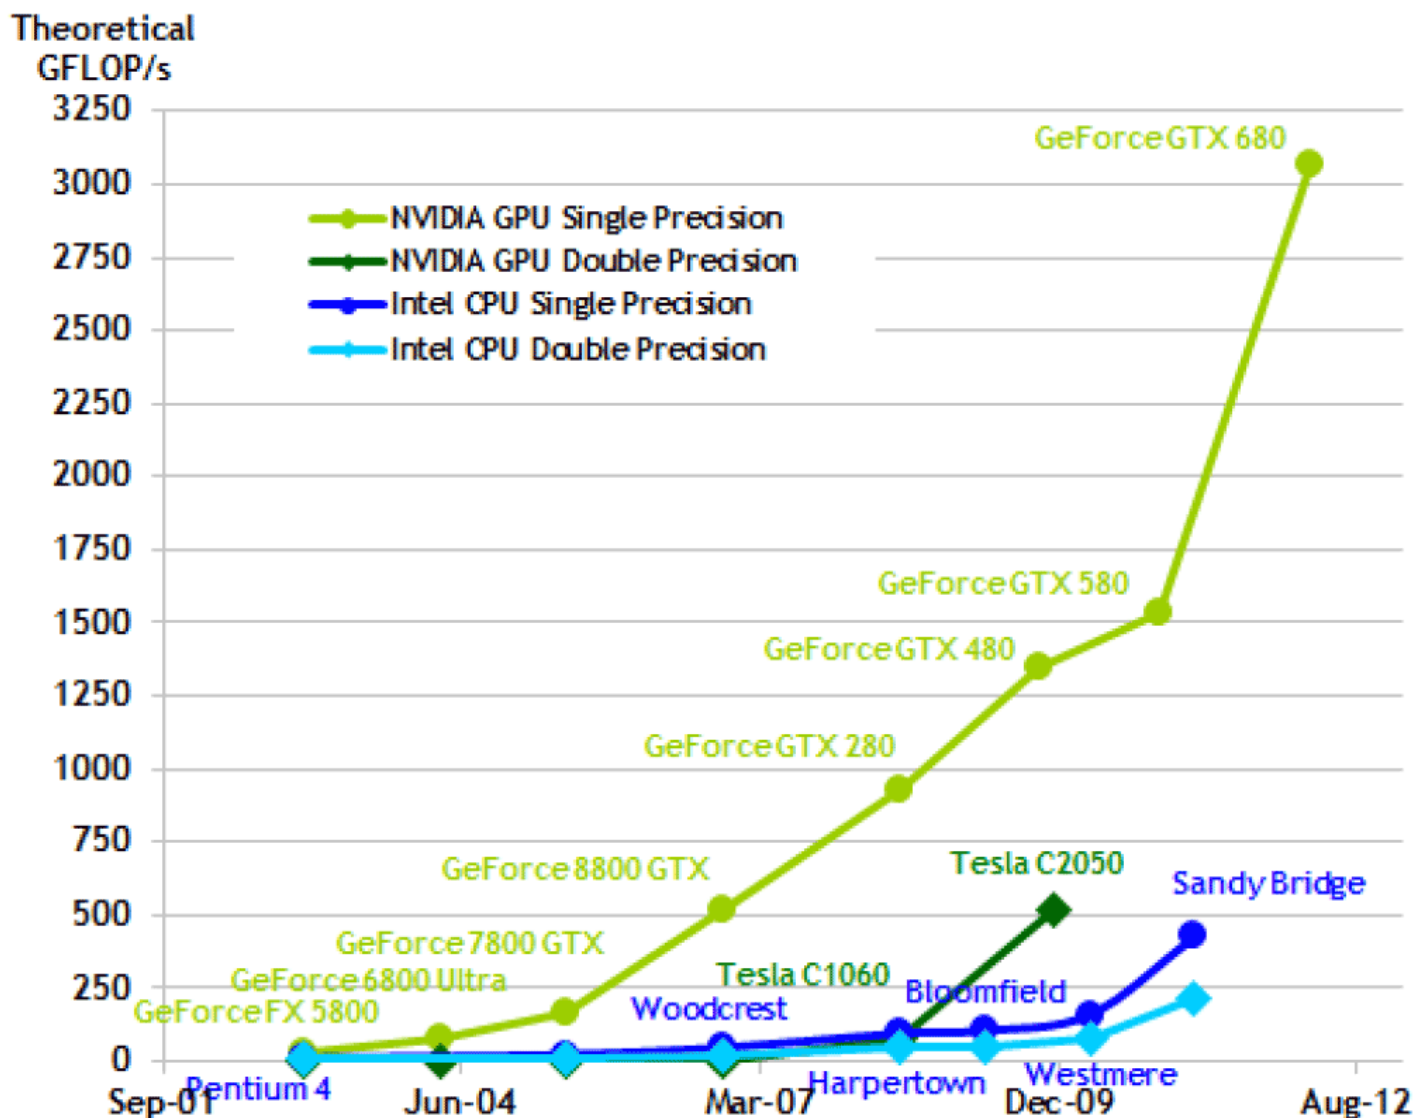

Figure 1. Floating Point Operations Per Second
- Figure 1. Floating Point Operations per Second